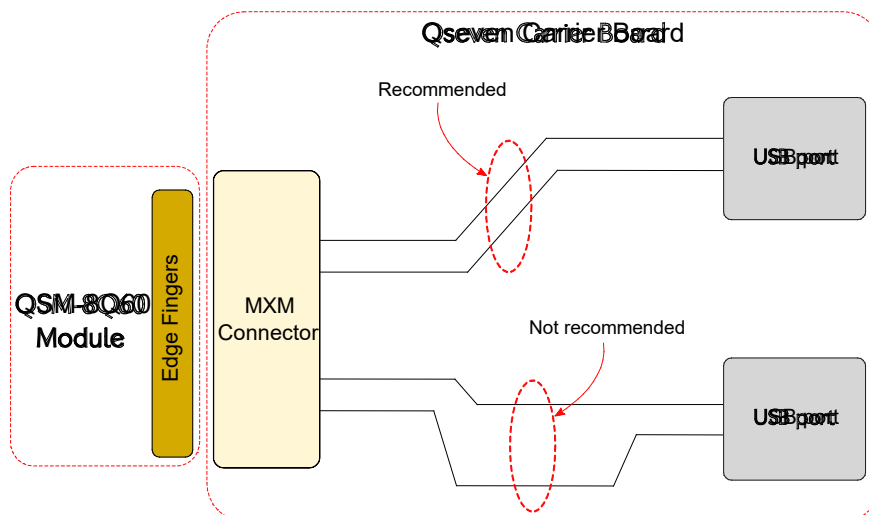

Figure 27: USB differential signal routing example
- The layout guidelines for the USB data lines are listed below. And a routing example for two pairs of USB data buses is shown in Figure 27.
- Each pair of USB data lines is required to be parallel to each other with the same trace length (see Figure 27), and not parallel with other signals to minimize crosstalk.